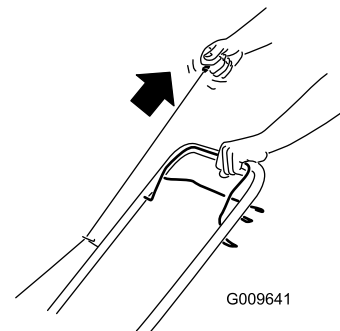

Figure 14
2. Pull the recoil-start handle (Figure 14).
Note: When you pull the recoil-start handle, pull it lightly until you feel resistance, then pull it sharply (Figure 14). Allow the rope to return to the handle slowly.